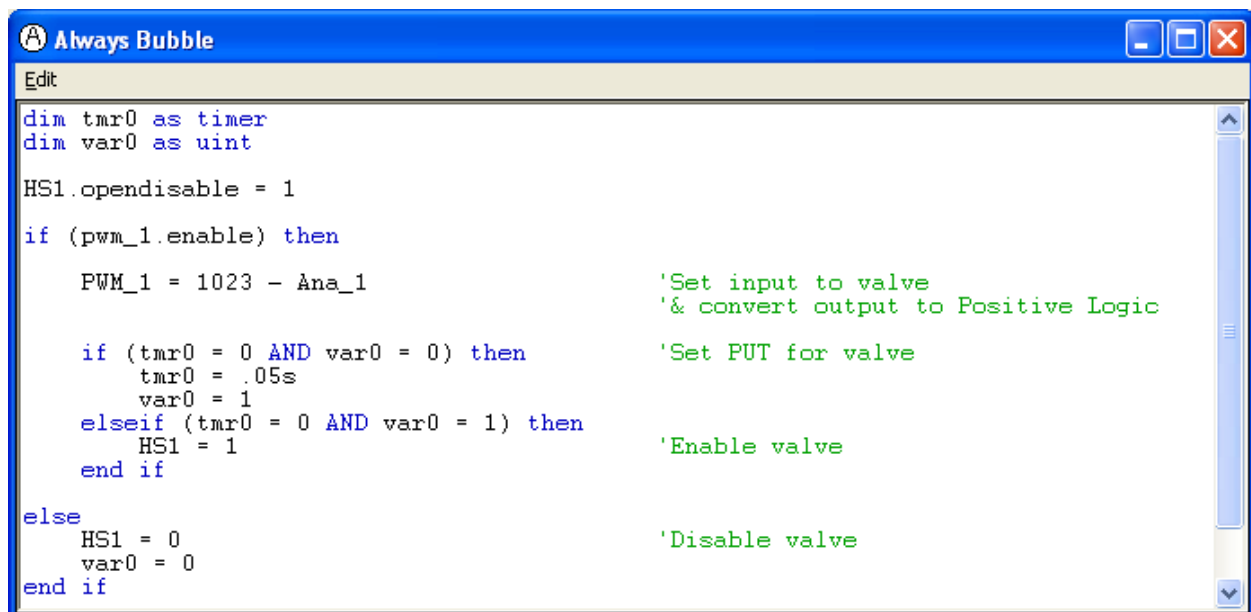

Figure 2
2. When you want to use the PVG valve, enable the PWM output and set it to the desired level (ie neutral or 50%) BEFORE turning on HS1 and enabling the valve. This will prevent violent activation of the equipment by ensuring that the valves input is set at a safe level before activating movement. I recommend at least 50mS from turning on the valves input before turning on the valve with HS1, longer if you can, Figure 2